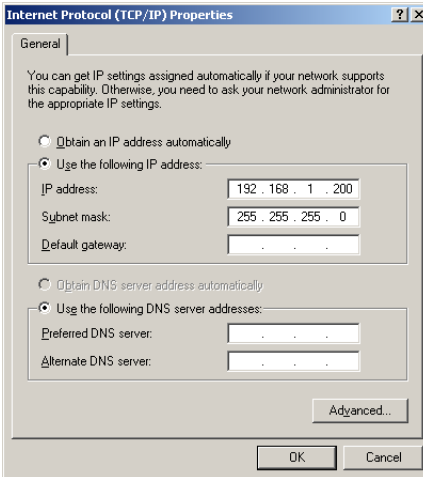

Figure 7-2 Internet Protocol Properties Window
4. Highlight the “Internet Protocol (TCP/IP)” item in the list, and click on the “Properties” button. The Internet Protocol Properties Window will open (Figure 7-2).